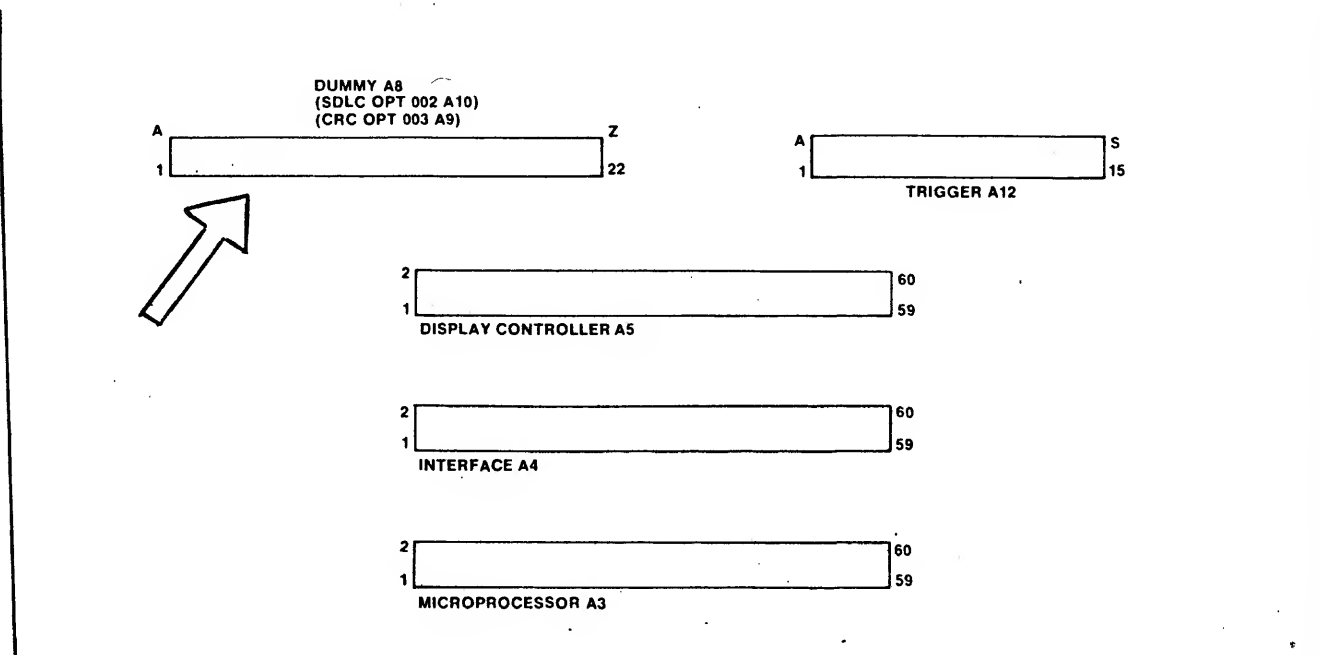

Figure 2. Dummy/SDLC/CRC Board Location on Mother Board.
d. Remove Dummy Board A8 (or CRC Board A9, if installed) from Mother Board A1. See figure 2.
e. Install SDLC Board A10 in Dummy/SDLC/CRC connector on Mother Board A1 (figure 2). Make sure that the component side of the board is facing away from the CRT (pin 1 of board must match pin 1 of connector).